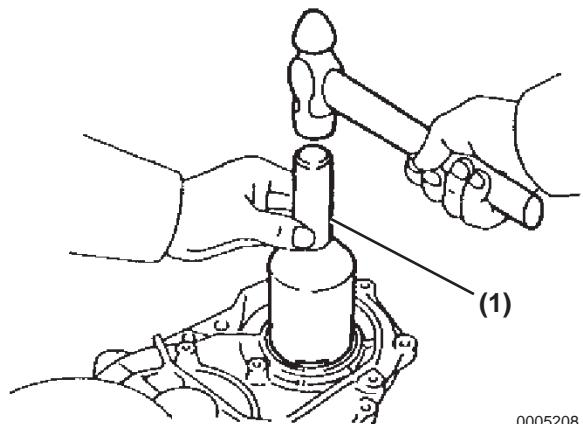

Figure 5-208
2. Tap in a new oil seal to install using a suitable tool (**Figure 5-208, (1)**), until the surface is level with that of the timing gear cover.